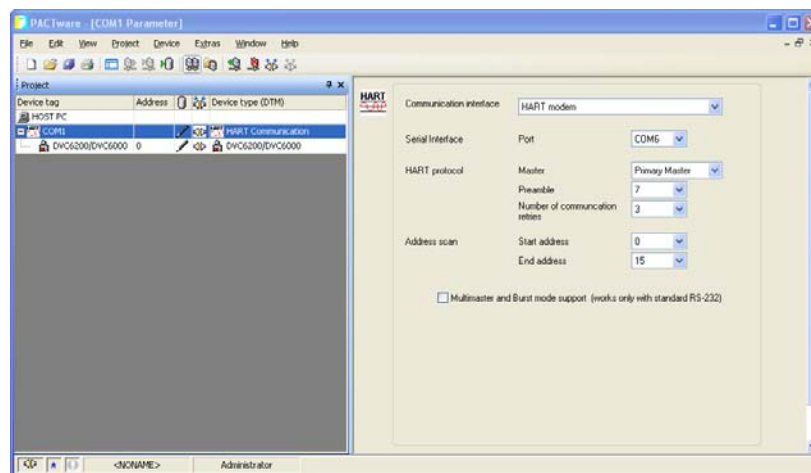

Figure 4-3. Setting the CommDTM
**Step 4:** Set the appropriate settings for the CommDTM and DeviceDTM (see figure 4-3 and 4-4).